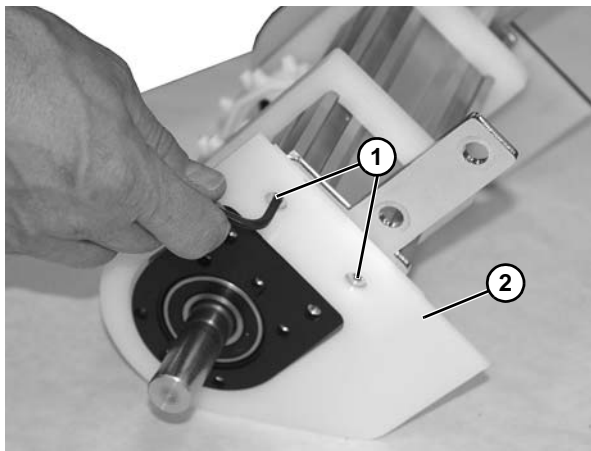

Figure 51
7. Remove two socket head screws (Figure 51, item 1) from drive filler plate (Figure 51, item 2).